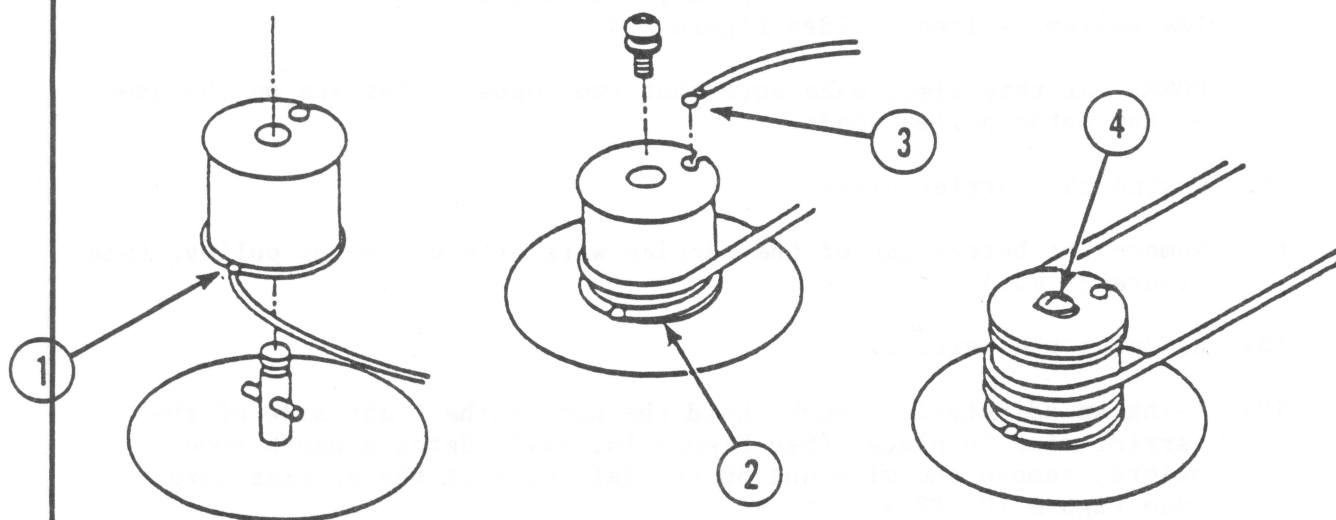

FIGURE 11
6. Insert the long end of the wire into the bottom slot on the motor pulley. (See Figure 11, #1.)
8. Seat the motor pulley on the shaft. (See Figure 11, #2.)
10. Insert the short end of the wire into the top slot of the motor pulley. (See Figure 11, #3.)
12. Replace the motor pulley screw. (See Figure 11, #4.)